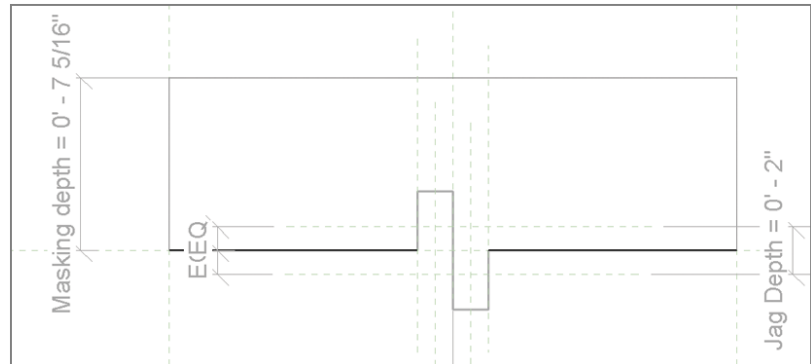

FIGURE 6.36 Delete the existing jag lines in the masking region.
5. Delete the squared jag lines, as shown in Figure 6.36.